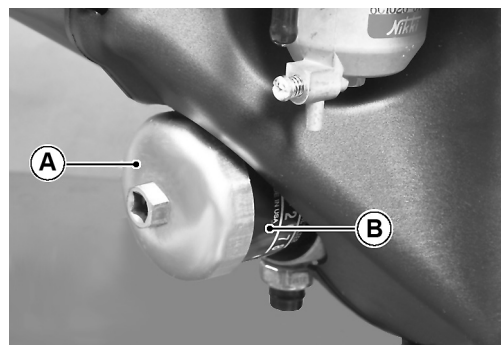

Fig. 25 Remove Oil Filter
Clean the area around filter. Using a filter wrench, strap wrench or other suitable wrench (A), remove the filter (B) from the engine and allow the oil to drain. The 'O' rings may remain on engine or filter (Ref Fig. 25 on page 21)